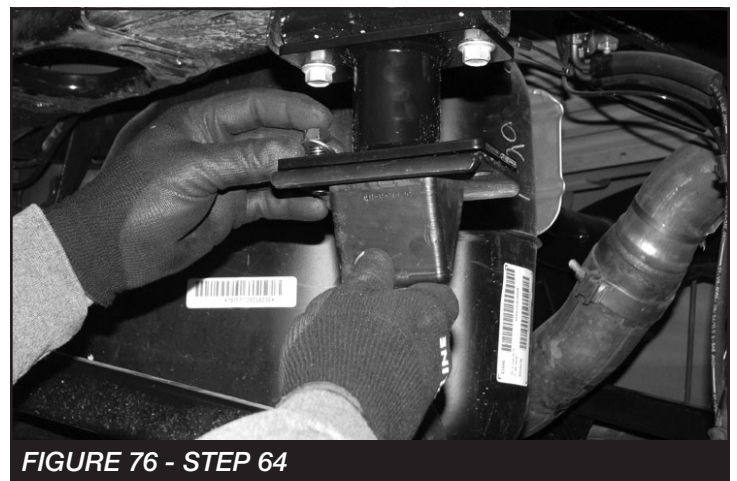

FIGURE 76 - STEP 64
64. Locate the FT44406BK rear bump stop spacer and supplied 7/16"-14 x 1-1/4" bolts, nuts, and washers. Install the FT44406BK spacer with the factory bolts that were removed during disassembly. Then, install the factory bump stop onto the spacer bracket with the supplied 7/16" hardware. Torque to 58 ft-lbs. **SEE FIGURE 76**